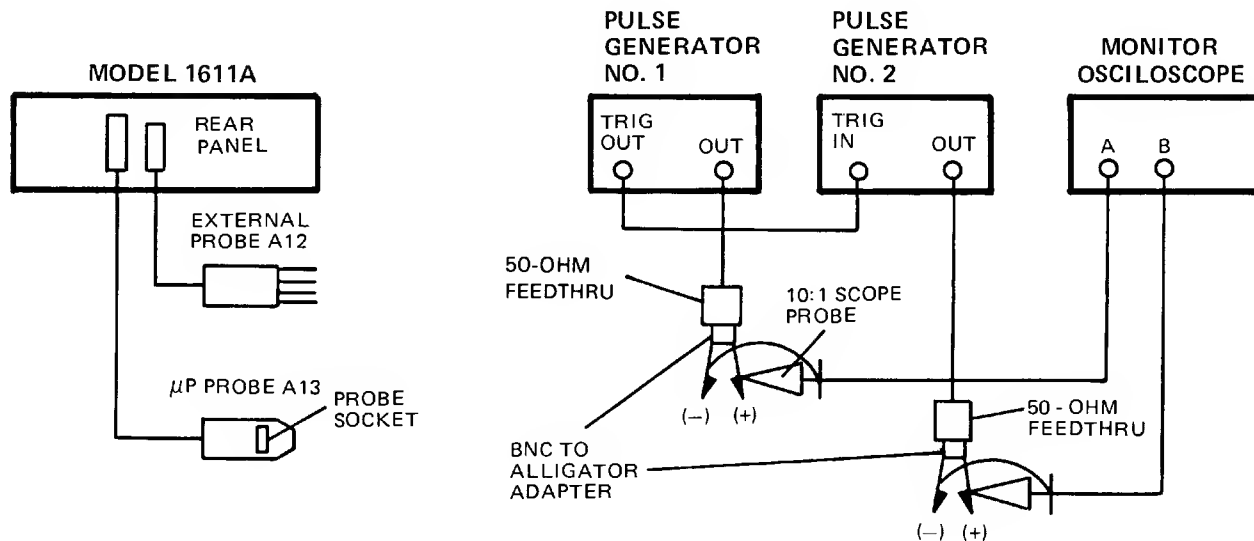

Figure 4-8. External Probe Input Test Setup
- Connect test equipment as shown in figure 4-8.